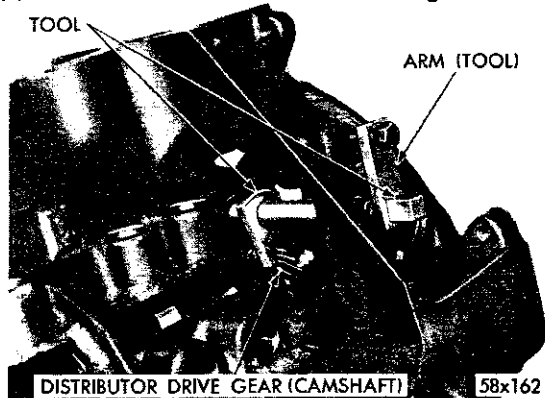

Fig. 30—Camshaft Holding Tool C-3509
(2) Modify Tool C-3509 by grinding off the index lug holding the upper arm on the tool and rotate the arm 180 degrees.
(3) Install Tool C-3509 in place of the distributor drive gear and shaft, as shown in Figure 30.
(4) Hold the tool in position with the distributor lock plate screw. This tool will restrict the camshaft from being pushed in too far and prevent knocking out the welch plug in the rear of the cylinder block. The tool should remain installed until the camshaft and crankshaft sprockets and timing chain have been installed.